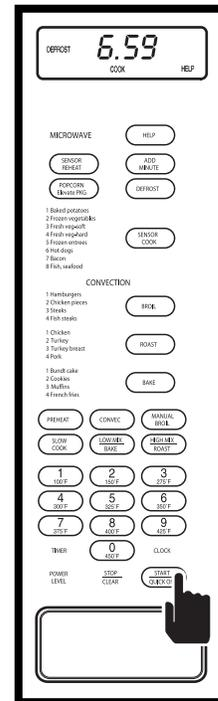

Figure 3-54.
4. Press QUICK ON/START key to start the auto defrost process and the display will show the time as it counts down along with the word "DEFROST" (See Figure 3-54).